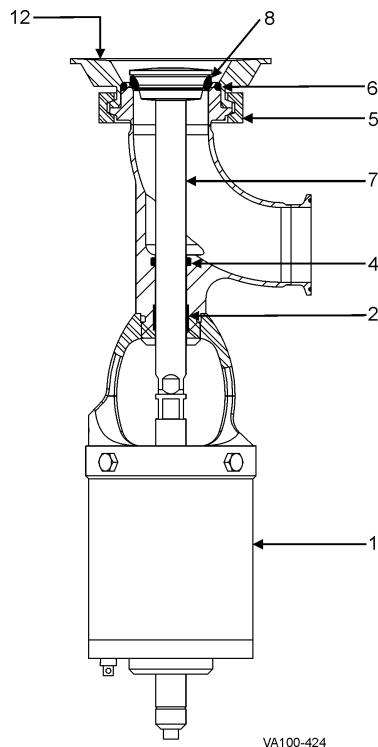

Figure 23: W64ET Tank Outlet Valve
2. Install the stem O-ring (Figure 23, item 4) and PTFE bearing (item 2).
3. Using 5/8-inch torque wrench flats on the stem, install the valve stem (item 7). Torque to 380 in/lbs.
4. Install the lower body O-ring (item 6) onto the body.
5. Insert the valve into the tank flange and tighten the body clamp (item 5).